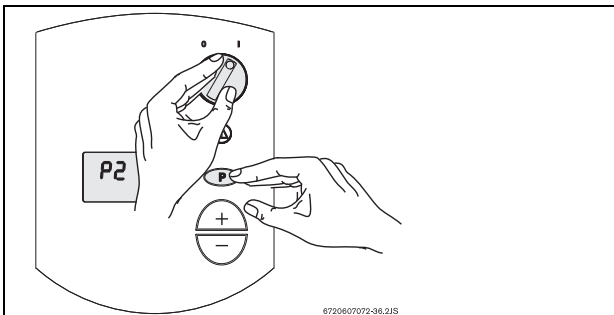

Fig. 6
- ▶ While holding in the Program (P) button, turn the ON/OFF switch to ON (I) position (see Fig. 6). As soon as '188' flashes on the display, release the Program button. The display should now read P2.